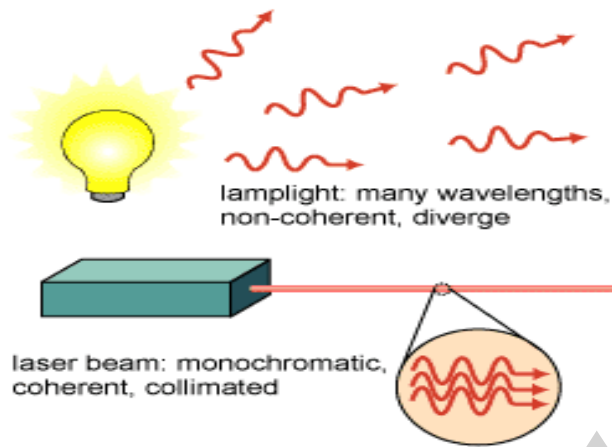

Figure 3
It is a useful device for separating out the various wavelengths in a spectrum. It has the same effect as a prism but with greater resolving power (see fig. 3).
(D) A **laser** (from the acronym *Light Amplification by Stimulated Emission of Radiation*) is an optical source that emits photons in a coherent beam. Laser light is typically near-monochromatic, i.e., consisting of a single wavelength or color, and emitted in a narrow beam. This is in contrast to common light sources, such as the incandescent light bulb, which emit incoherent photons in almost all directions, usually over a wide spectrum of wavelengths (see fig 3.).